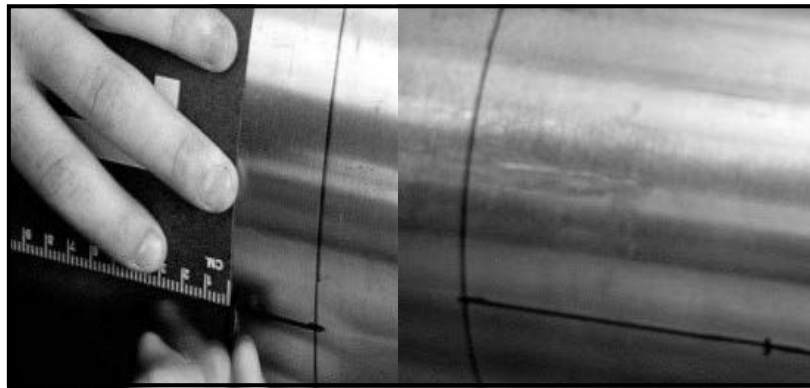

Figure 18: Measuring and Marking Spacing
1. Measure the spacing from the zero point (the point of circumferential origin). Mark the spacing point with a crosshair on the opposite side of the pipe, 180° from the zero point (as shown in Figure 18 below).